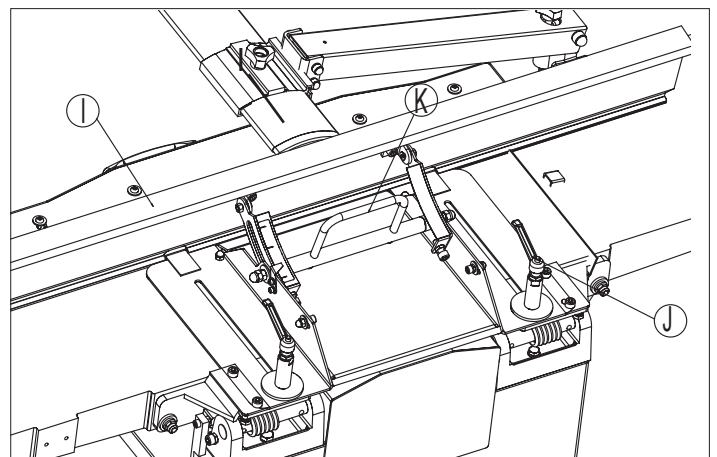

FIG. 9
The jointer fence (I, Fig.9) provides lateral support for the workpiece when surface planing.
- After loosening the lock lever (J, Fig.9) the jointer fence can be adapted to the workpiece width.
- After loosening the lock lever (K, Fig.9) the jointer fence extrusion can be tilted to the angle between 0°- 45°.